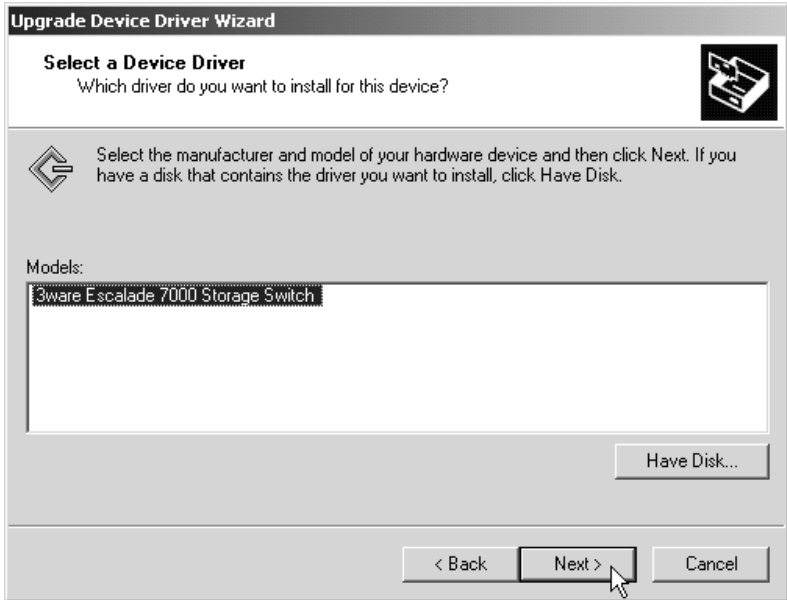
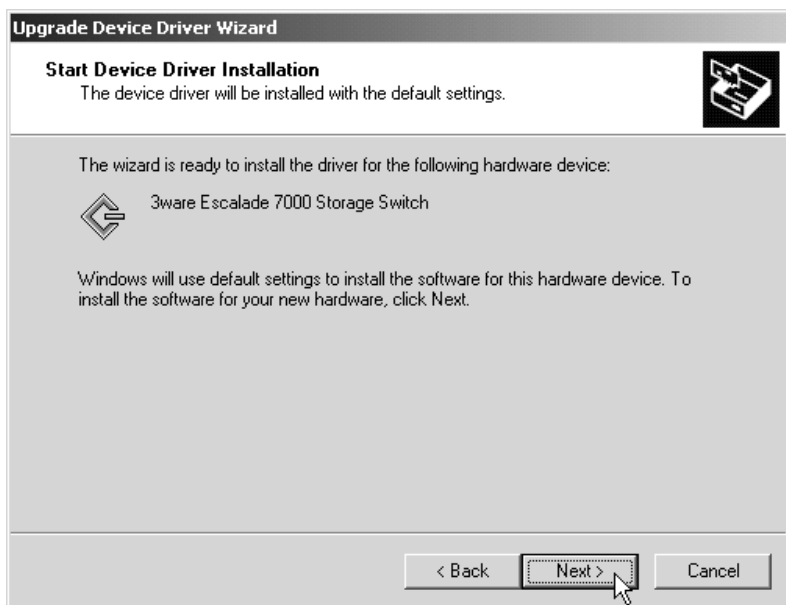

Figure 44. Select a Device Driver
Figure 45. Start Device Driver Installation
- 4 The **Select a Device Driver** dialog box appears (see Figure 44). Click on the appropriate driver name (i.e., Escalade 7000 Storage Switch) listed in the dialog box to highlight it. Then click on **Next**. Be sure to select the correct driver name, otherwise the driver update will not be successful. The **Start Device Driver Installation** screen appears (see Figure 45).